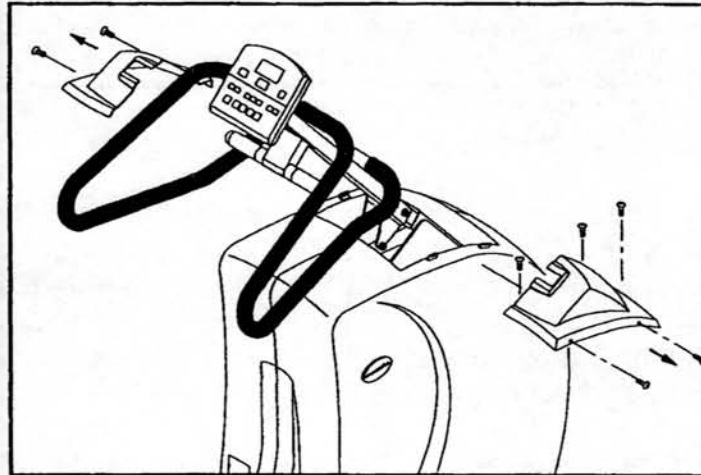

Fig.2-1
1. Remove the ELECTRONICS POST COVER by unscrewing all screws. (see fig.2-1)